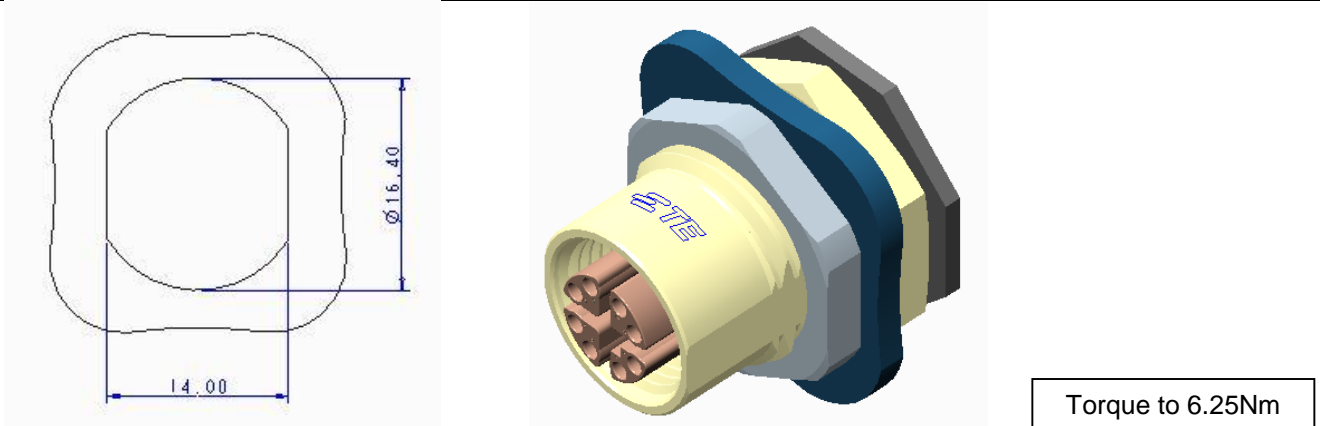

Figure 2
- The panel nut must be flat against the panel and tightened to the torque value given in Figure 2
Refer to Figure 2 for panel cutout dimensions and torque values.